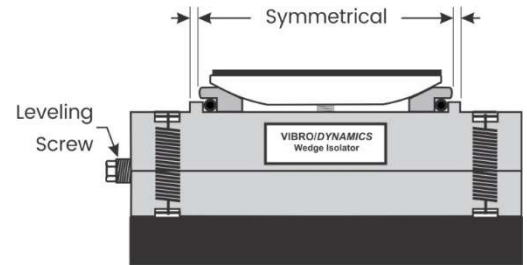

FIGURE 2
- Once all the isolators are installed under the machine, inspect each isolator to see if the Swivel Assembly remained centered in the Retaining Ring. There should be a symmetrical amount of spacing between the Swivel Seat and the Retaining Ring as per Figure 2. For 16WH and 24WH models, check for uniform clearance between the housing and the isolator body. If isolator is not centered, jack the machine up at that point and center the isolator.
- Inspect all of the isolators to make sure they are carrying load. For isolators not carrying load, adjust the isolator upward using the horizontal leveling adjustment screw. See Figure 2.